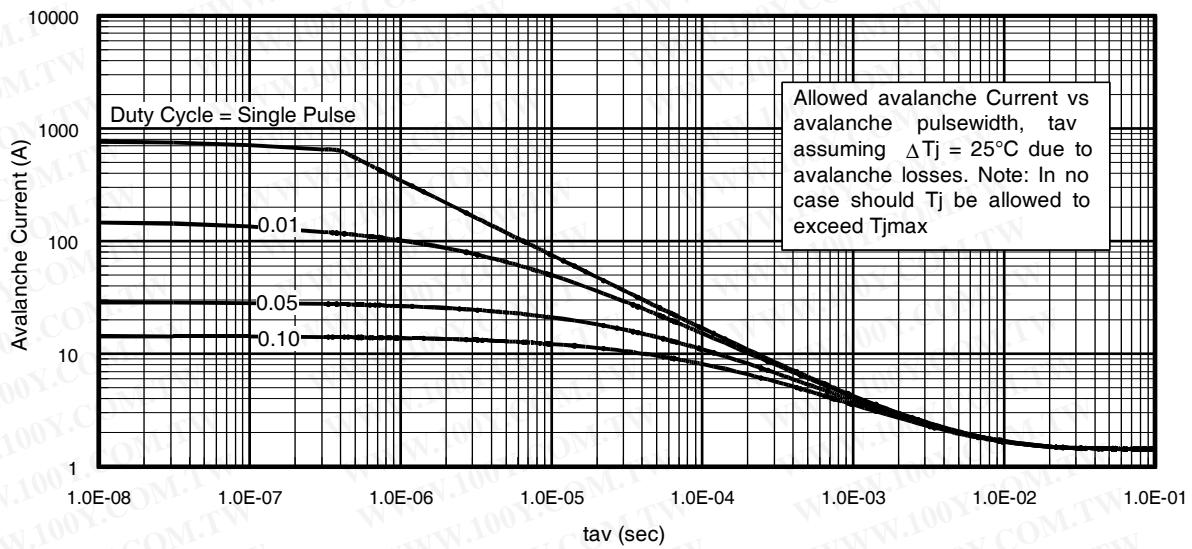

Fig 15. Typical Avalanche Current Vs.Pulsewidth
**Notes on Repetitive Avalanche Curves , Figures 15, 16:
7. $\Delta T = \text{Allowable rise in junction temperature, not to exceed } T_{j\max} \text{ (assumed as } 25^\circ\text{C in Figure 15, 16).}$